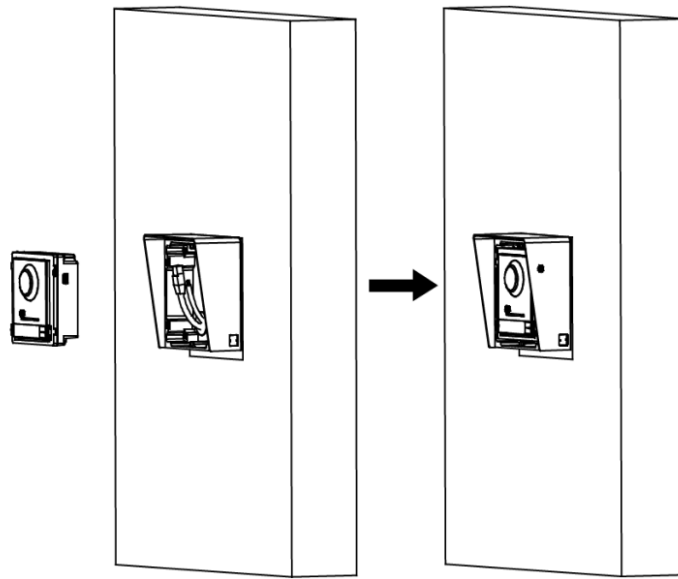

**Figure 3-4b Fix the Mounting Frame
4. *(Optional – for protective shield only)* Fix the protective shield and the mounting frame onto the wall with 4 expansion bolts (see Figure 3-4b).